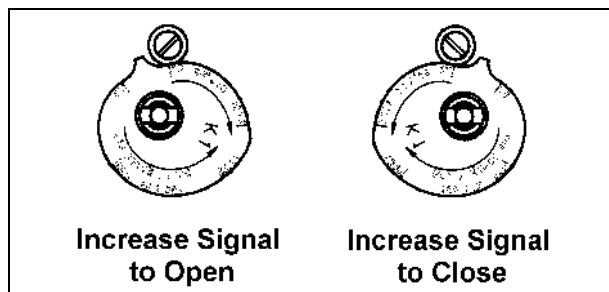

Figure 4 – Cam Positions
Note: See Figure 4 for proper cam position.
5. Turn the cam over and position the cam so the cam roller is about 1/32" from the stop on the cam. See Figure 4.